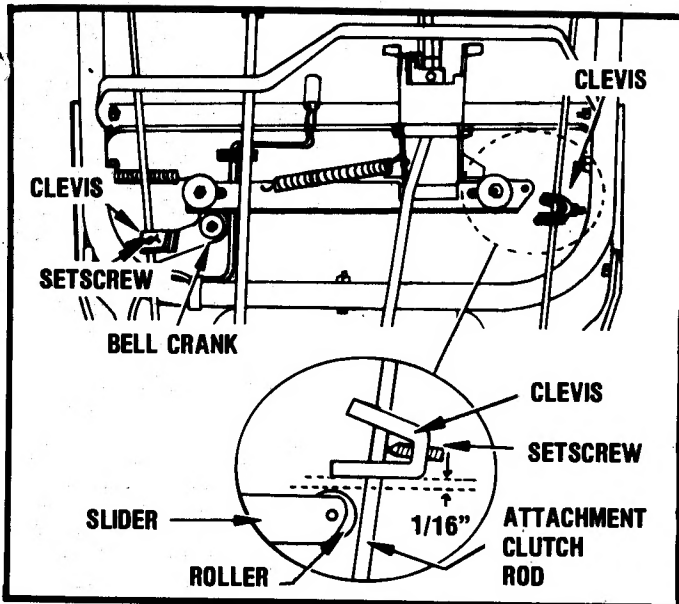

FIGURE 19
MECHANICAL INTERLOCK — FIGURE 19
2. Release Traction Clutch Lever ("UP" position). Pull bell crank down until slider is at end of slot. See Figure 19. Secure clevis to traction clutch rod at this position with setscrew.